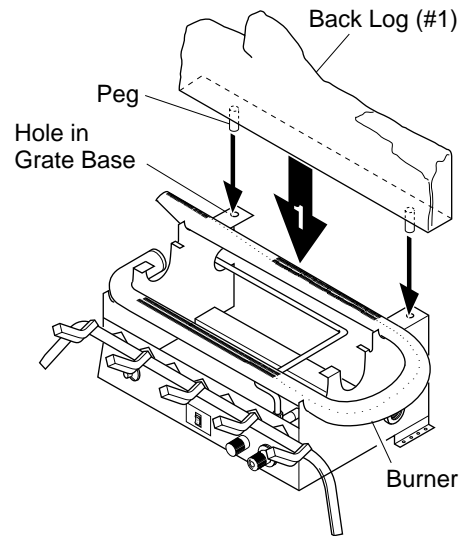

Figure 22 - Installing Back Log (#1)
1. Locate pegs on the bottom of back log (#1). Slide these pegs into the holes in the grate base behind the burner (see Figure 22).